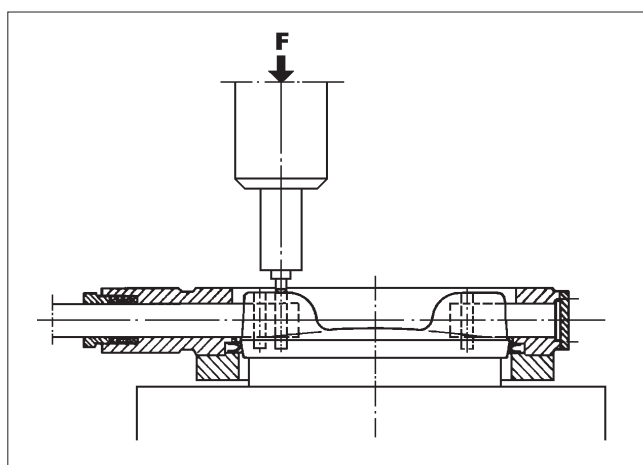

Fig. 18 Pressing the pins
- Support the disc well in a horizontal position during mounting of the pins. Push the new pins into the holes and press them in a press to final form (see Fig. 18). Use slightly larger pressing tool than the pin diameter. See Table 6 for force needed.